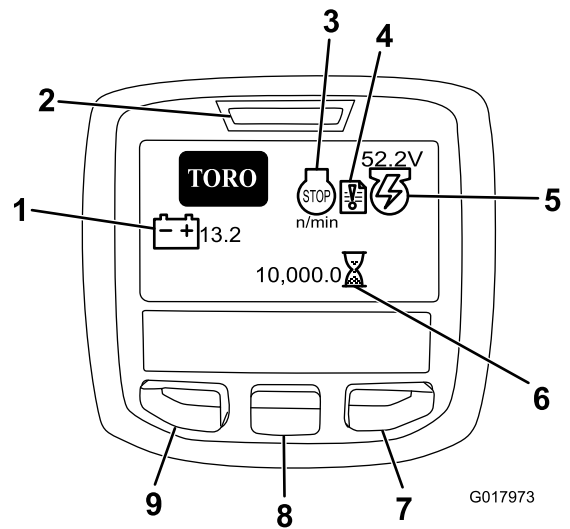
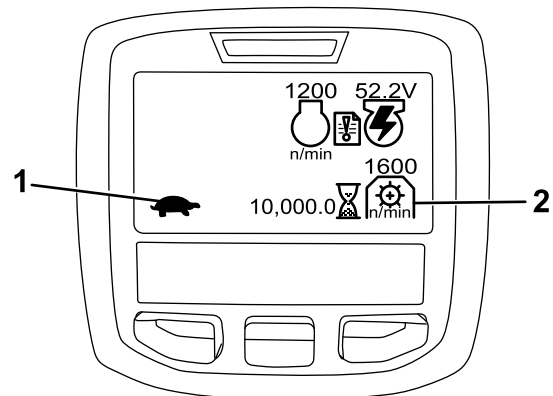

Figure 15
Figure 16
The InfoCenter LCD display shows information about your machine such as the generator status, the speed, and various diagnostics and other information about the machine and the battery pack. Figure 15 and Figure 16 illustrate the splash screen and main information screen of the InfoCenter. You can switch between the splash screen and main information screen at any time by pressing any of the InfoCenter buttons and then selecting the appropriate directional arrow.
3. Using the appropriate graph (Figure 16) for 5-, 8-, 11-, or 14-blade cutting units, determine the proper reel speed setting.